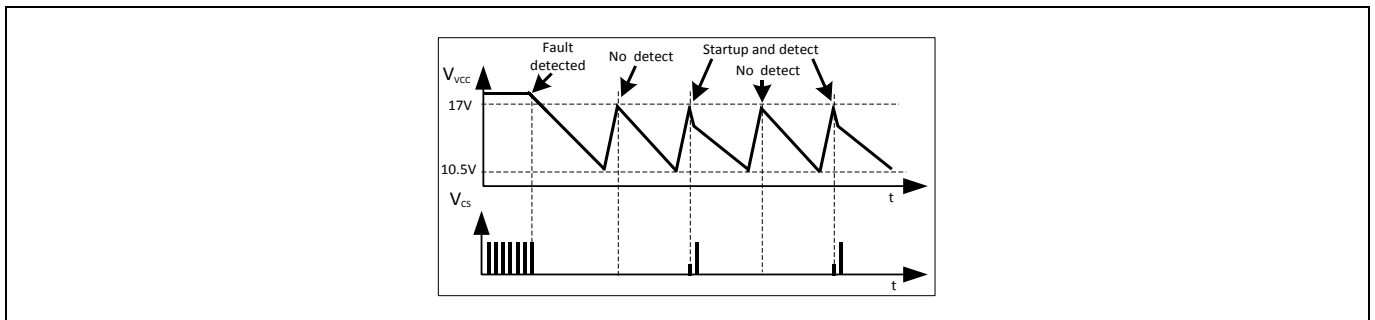

Figure 30 Odd skip auto restart waveform
Odd skip non switch auto restart mode is similar to odd skip auto restart mode except the start up switching pulses are also suppressed at the even number of the restart cycle. The detection of fault still remains at the even number of the restart cycle. When the fault is removed, the IC will resume to normal operation at the even number of the restart cycle (Figure 30).
VCC OVP (1) condition is when V_{VCC} voltage is $> 20.5\text{ V}$, V_{FBB} voltage is $> 4.5\text{ V}$ and during soft start period, the IC enters into odd skip Auto Restart Mode. This condition likely happens during start up at open loop fault (Figure 30).
Vcc OVP (2) condition is when V_{VCC} voltage is $> 25.5\text{ V}$, the IC enters into odd skip Auto Restart Mode (Figure 30).
In case of Overload or Open Loop, the V_{FBB} voltage exceeds 4.5 V which will be observed by comparator C4. Then the built-in blanking time counter starts to count. When it reaches 20 ms, the extended blanking time counter CT1 is activated. The switch S2 is turned on and the voltage at the BBA pin will be discharged through 500 Ω resistor. When it drops to 0.9 V, the switch S2 is turned off and the Switch S1 is turned on. Then a constant current source I_{chg_EB} will start to charge up BBA pin. When the voltage hits 4.5 V which is monitored by comparator C11, the switch S1 is turned off and the count will increase by 1. Then the switch S2 will turn on again and the voltage will drop to 0.9 V and rise to 4.5 V again. The count will then increase by 1 again. When the total count reaches 256, the counter CT1 will stop and it will release a high output signal. When both the input signals at AND gate G5 is high, the odd skip Auto Restart Mode is activated after the 30 µs spike blanking time (Figure 30).